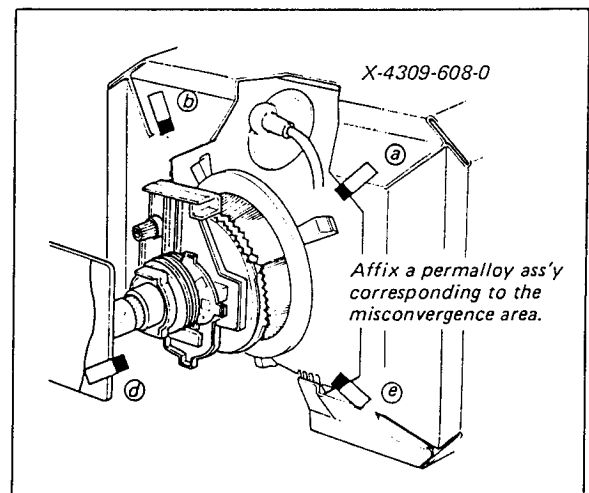

Fig. 3-16. Adjustment of corner misconvergence by affixing a permalloy assembly
1. Attach a permalloy assembly (Part No. X-4309-608-0) for best result with regard to the actual misconvergence as shown in Fig. 3-16.